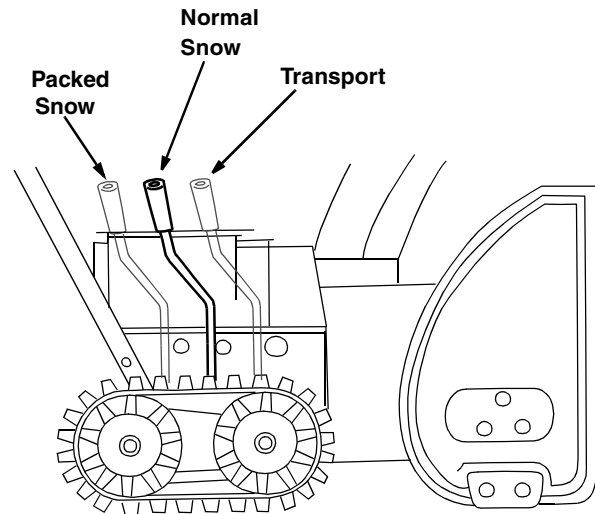

Figure 18
- To check the adjustment of the traction drive control and shift lever, move the weight transfer lever to the transport position (shown in Figure 18 on page 13) and the shift lever all the way forward to sixth (6) position.
The weight transfer lever is located on the right side of the snow thrower and is used to select the position of the housing and the method of track operation. See Figure 18. Move the lever to the right, then forward or backward to one of the three positions.